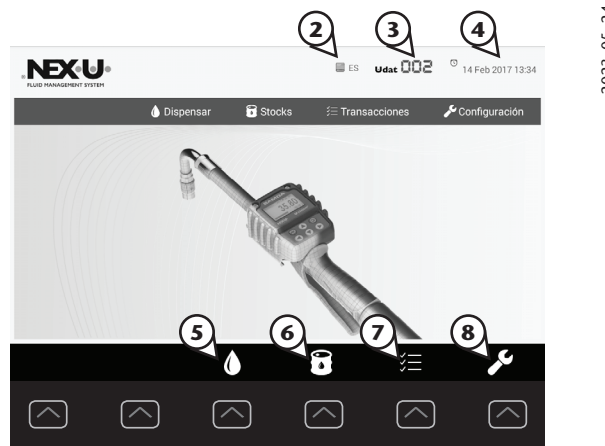

Fig. 11
From the home screen, press the shortcut key (1) associated with the unlock icon to access the main menu (Fig. 11).